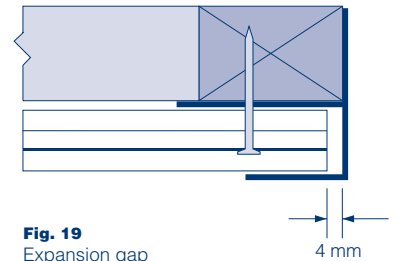

Fig. 19
- Allow a 4 mm clearance at each end for expansion (where joint covers are used, their spacing lugs will automatically provide 4 mm clearance between adjacent plank lengths). See figure 19.